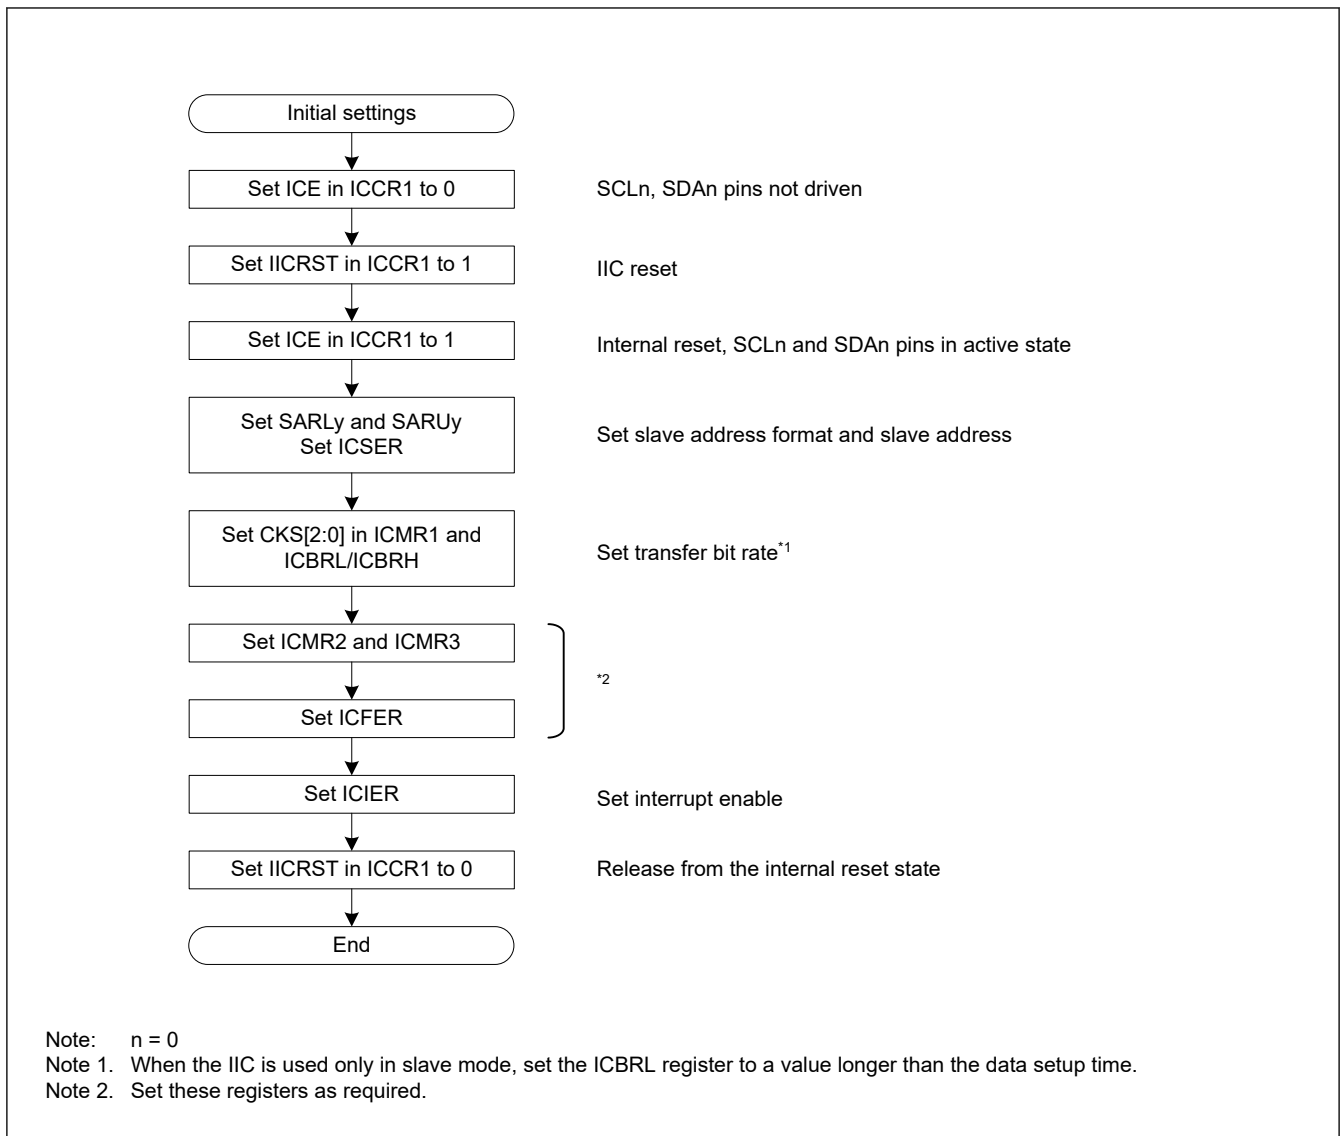

Figure 26.5 Example IIC initialization flow
Before starting data transmission or reception, initialize the IIC using the procedure shown in Figure 26.5.
4. Set the SARLy, SARUy, ICSEr, ICMR1, ICBRH, and ICBRL registers (y = 0 to 2), and set the other registers as required. For initial settings of the IIC, see Figure 26.5.